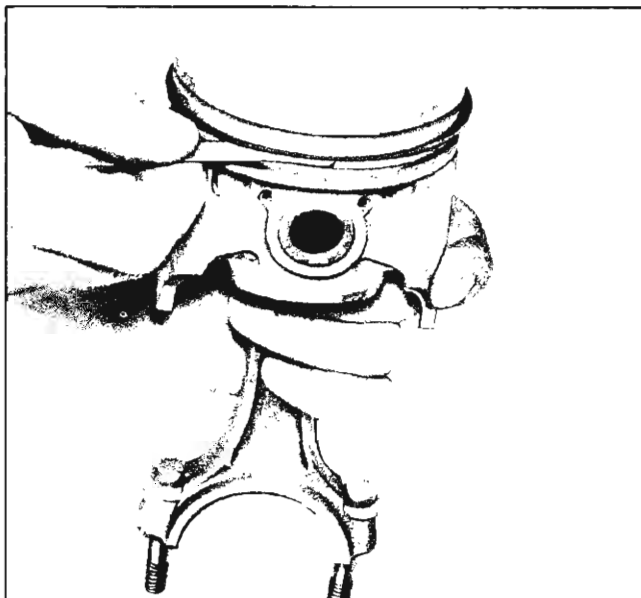

Fig. 62—Checking Groove Clearance
11. Proper clearance of the piston ring in its piston ring groove is very important in maintaining engine performance and in preventing excessive oil consumption. Therefore, when fitting new rings, the clearances between the top and bottom surfaces of the ring grooves should be inspected (fig. 62). Refer to "Engine Specifications" in Section 14 for correct clearances.